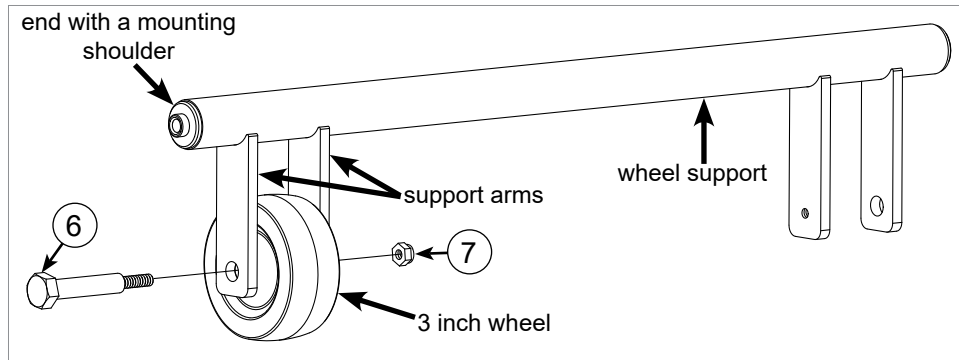

Fig. 7
7. Locate the wheel support and the two 3 inch wheels. Note that one end of the wheel support has a mounting shoulder and the other end does not. Mount one of the 3 inch wheels between the two support arms nearest the end of the wheel support that has the mounting shoulder using a fixed wheel axle and an M6 lock nut from the hardware pack (see Fig. 7). The fixed wheel axle passes through the outer support arm and threads through the inner support arm. Fully tighten the nut using a 17 mm wrench and a 10 mm wrench.